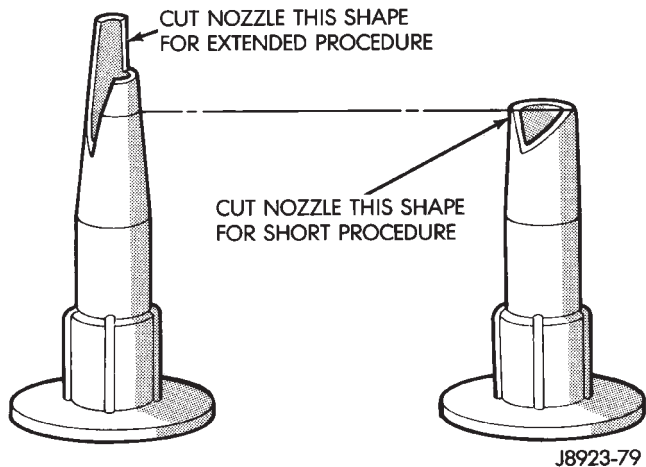

Fig. 6 Applicator Nozzle Preparation
(12) Cut the urethane adhesive applicator nozzle (Fig. 6).
(10) Cut the urethane applicator nozzle (Fig. 6).
(11) Apply a continuous bead of urethane to the surface area with blackout primer on the interior side of glass. The bead should be 9-mm (3/8-in) wide by 12.7-mm (1/2-in) deep for best results.